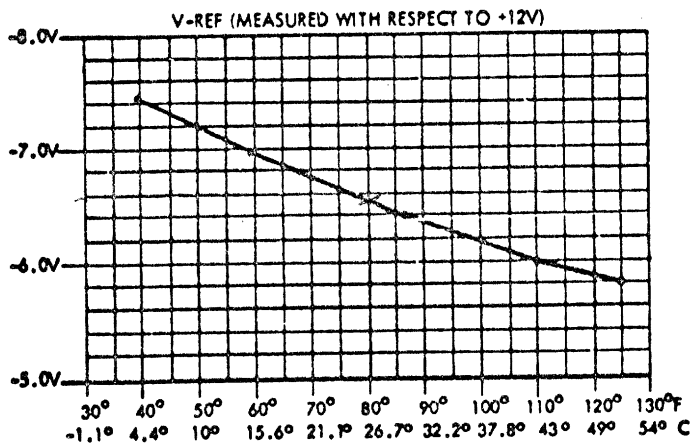

FIGURE 1A - V REF
4. SET V-REF TO "NOMINAL" FOR TEMPERATURE MEASURED IN "A3" ACCORDING TO CURVE OF FIGURE 1A. STORAGE COVER MUST BE CLOSED